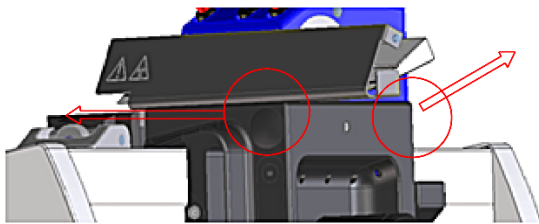

Fig 4-3-2
- Remove the two cover caps, located sideways at the sledge Fig 4-3-2.
- Insert the ballast Fig 4-3-1 into the opening and close it again by using the two cover caps Fig 4-3-2.